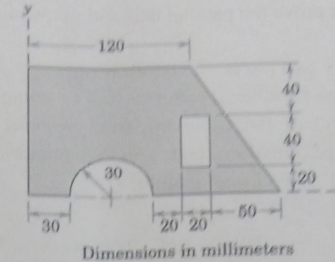

Fig. 7
- a. Locate the centroid of the shaded area shown in fig. 7.